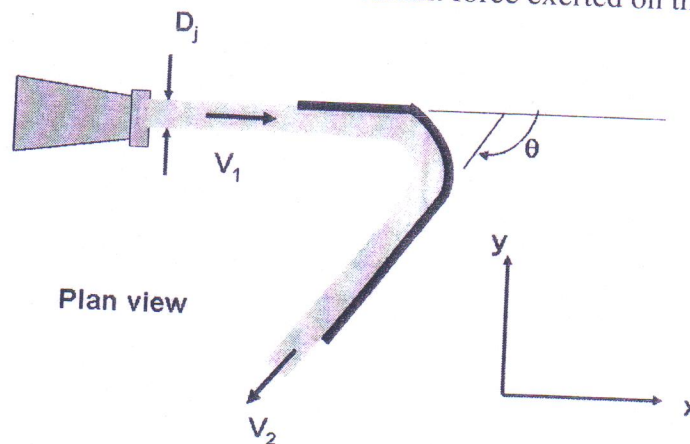

Figure-06
- Q. 7 a) In Figure-06 assume that friction is negligible, $\theta = 115^\circ$, and that the water jet has a velocity of 25 m/s and a diameter of 40mm. Find : (12)